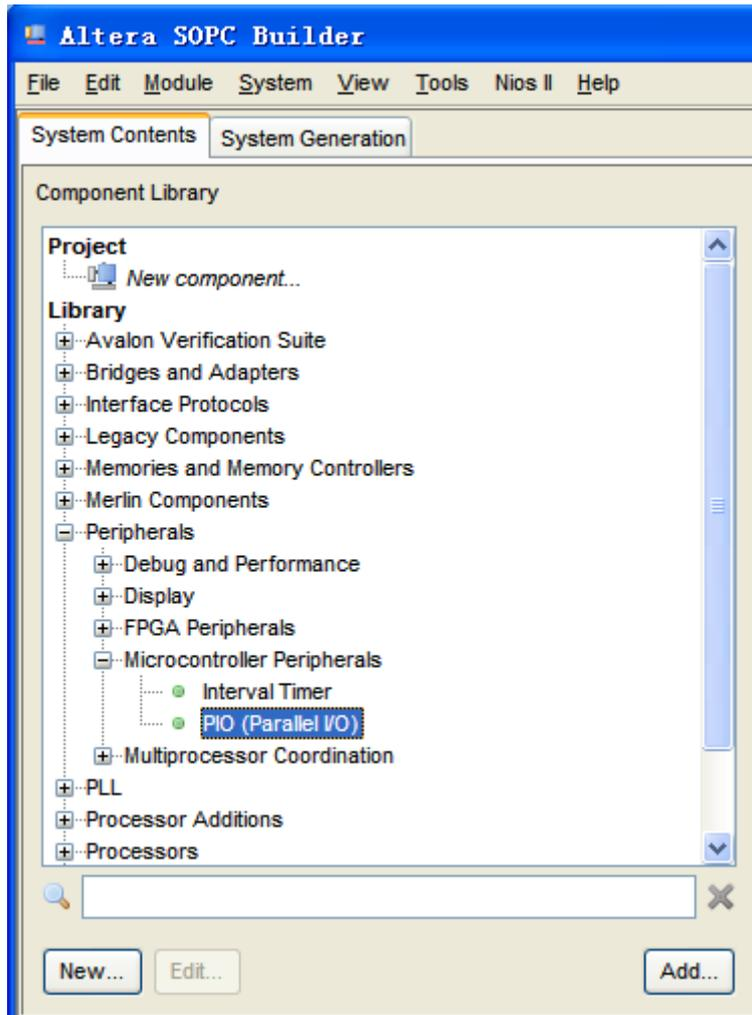
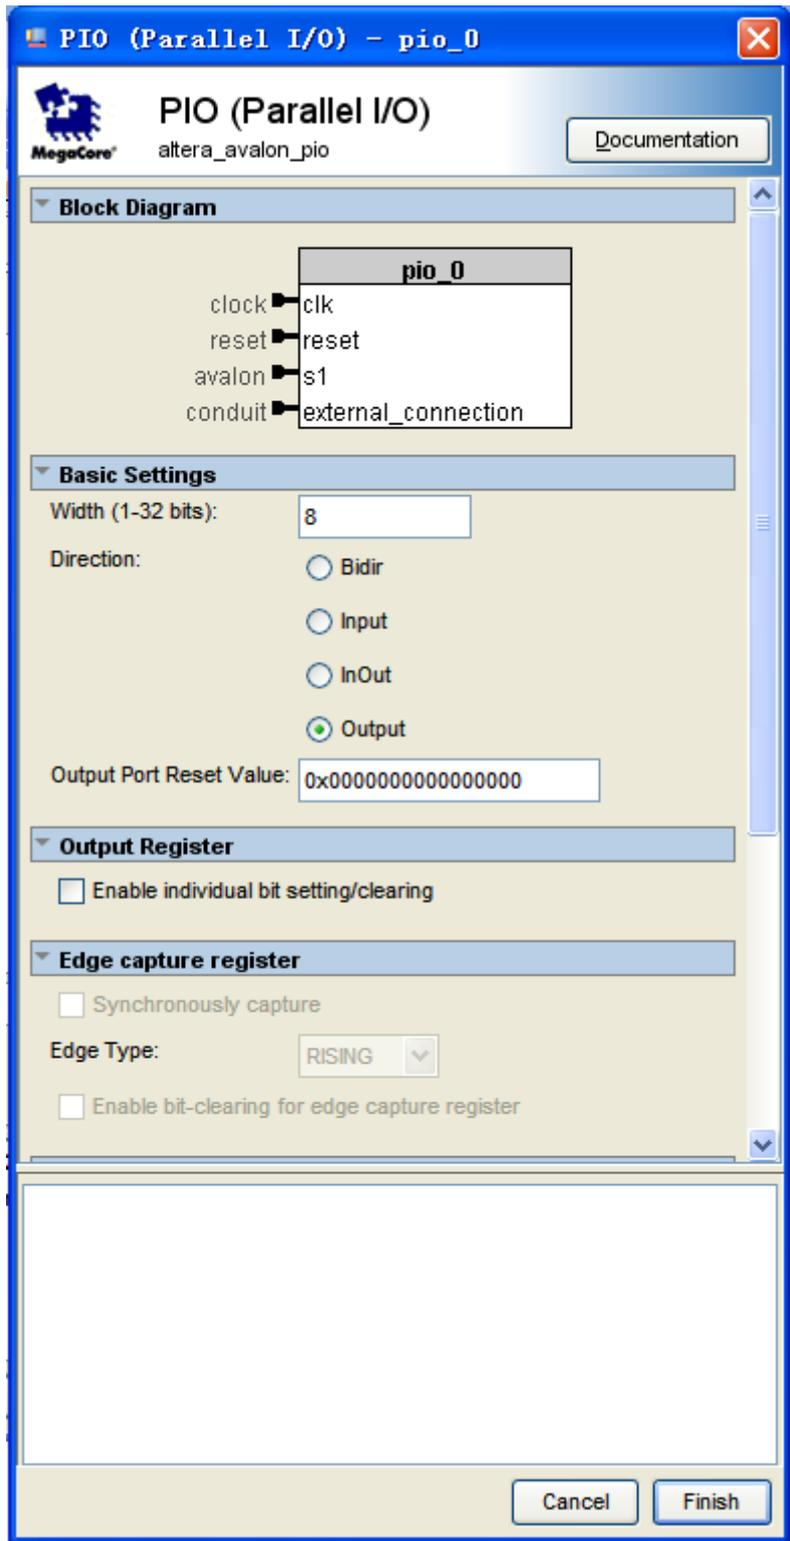

Figure 7-30 Add PIO
Figure 7-31 Add PIO
19. Add the **Library > Peripherals > Microcontroller Peripherals >PIO (Parallel I/O)** component to the system, as shown in Figure 7-30 and Figure 7-31.